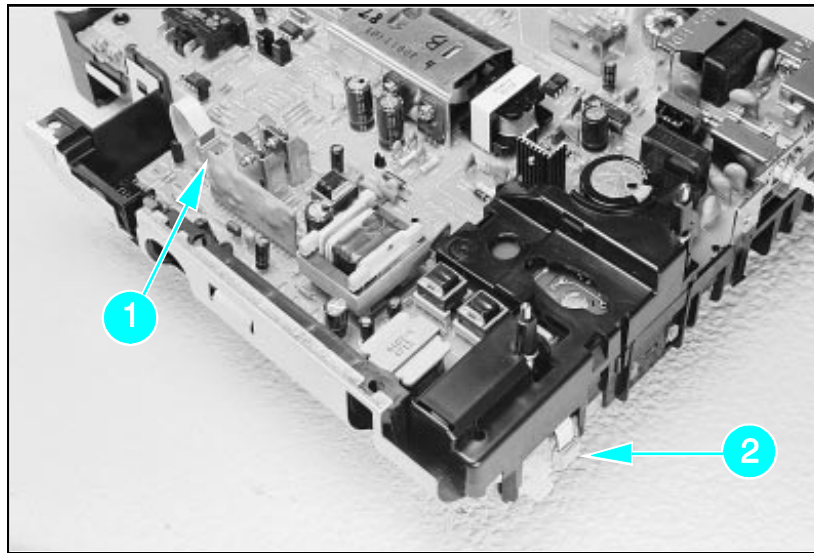

Figure 26 Tray 1 Interconnect PCA and Cable 302
8. Disconnect Tray 1 Interconnect PCA (callout 2 in Figure 26) and cable 302 (callout 1 in Figure 26) from the DC Controller PCA.